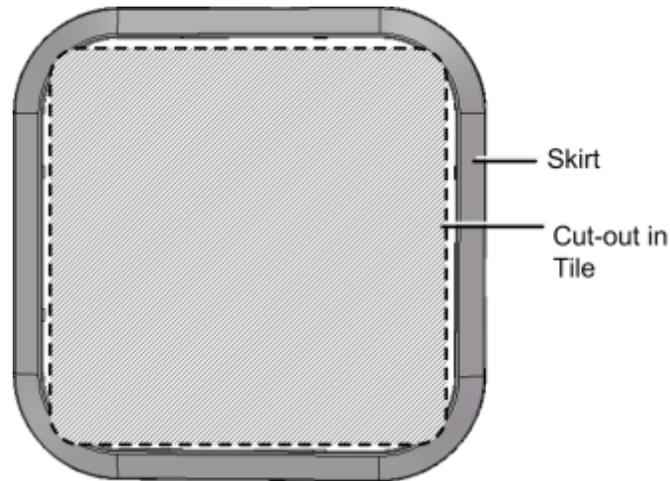

Figure 5-53. Skirt for Mid-Mount Cut-Out
1. For mid-mount only - using the inner circumference of the RAU Skirt (provided) as a template, cut out an opening in the acoustic ceiling tile for the RAU. See Figure 5-53.